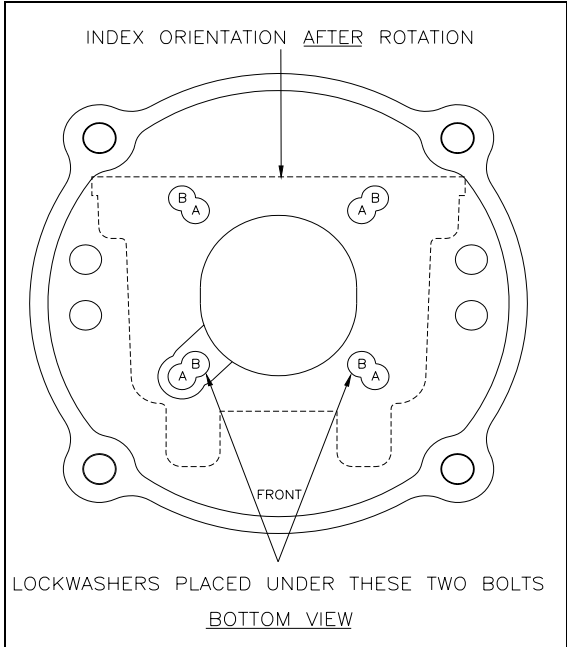

Fig. 1-5: Base Plate Showing Unit & Index Rotation
In general, the label side of the index base plate (front) should face the front of the meter. This allows the 6000 EFC to also face the front of the meter. In certain applications, the 6000 EFC and index can be installed 180° from the standard position so that viewing of the 6000 EFC is acceptable. To rotate the unit and index, refer to Fig. 1-5 on page 10 and do the following:
3. Insert the 4 bolts into location **B** with the two lockwashers as shown. Fig. 1-5 on page 10 shows the index orientation after the rotation is completed. (DO NOT OVERTIGHTEN).